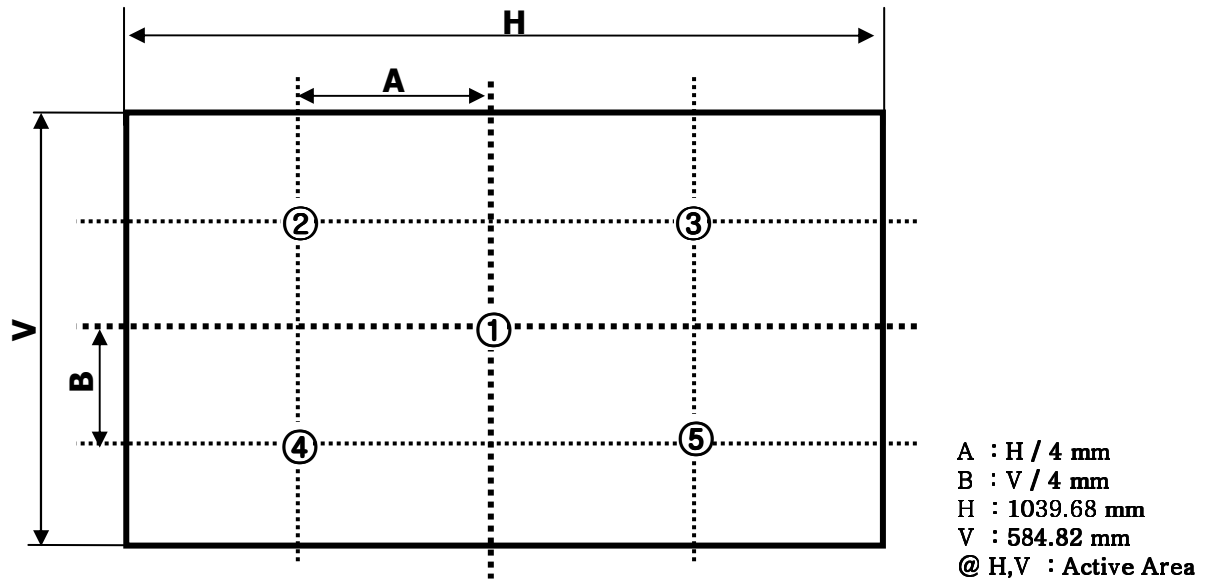

FIG. 2 Measure Point for Luminance
2. Surface luminance are determined after the unit has been 'ON' and 30min after lighting the backlight in a dark environment at  $25 \pm 2^\circ\text{C}$ . Surface luminance is the luminance value at center 1-point across the LCD surface 50cm from the surface with all pixels displaying white. For more information see the FIG. 2.
For more information, see the FIG. 2.(Black uniformity Spec is reference)